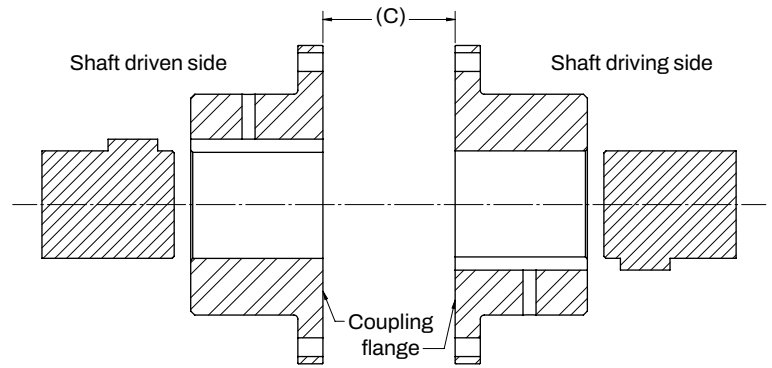

Figure 3: Hub and keyway orientation for applications above 3600 RPM
NOTE: For applications operating above 3600 rpm, it is recommended to mount the hubs with keyways facing 180 degrees apart as shown in Figure 3.
- A.** Verify that the hubs have been mounted as shown in Figure 3 to the correct DBSE or “C” dimension.